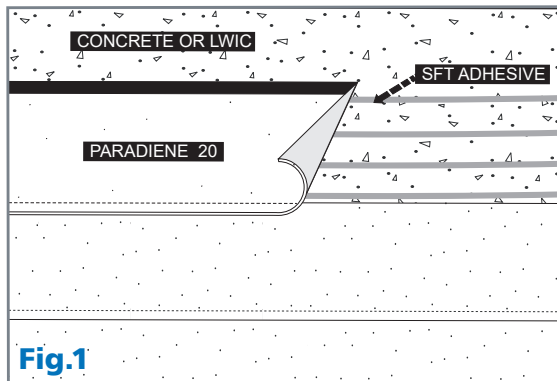

Fig.1
1. Prior to any application of adhesive, the Paradiene 20 rolls should be unrolled on the roof and allowed to relax. Then re-roll and set into place, as this will allow the roll to be rolled into the SFT Adhesive ribbons once applied. (See Figure 1.)